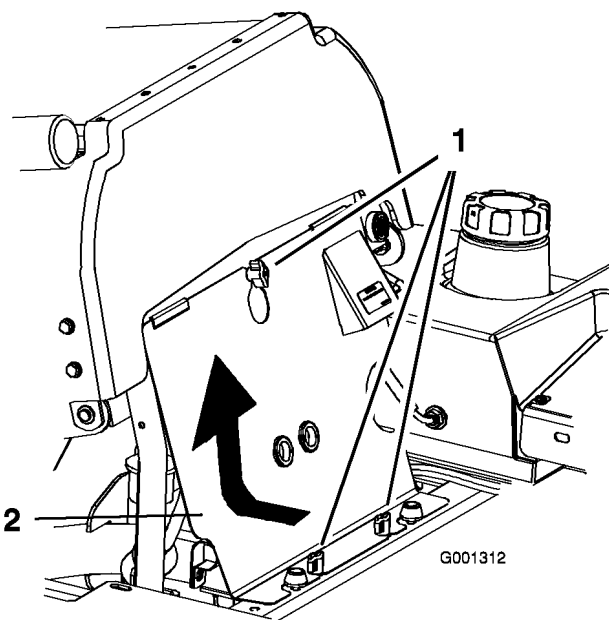

Figure 57
3. Loosen the front engine panel knobs and remove the panel (Figure 57).